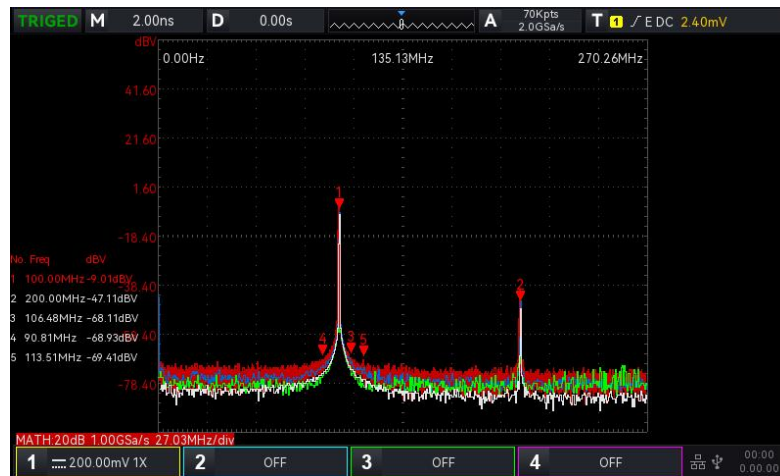

Figure 17-2
- c. Independent: Only display FFT waveform and the coordinate. FFT waveform display in 10 grids as shown in Figure 17-2.